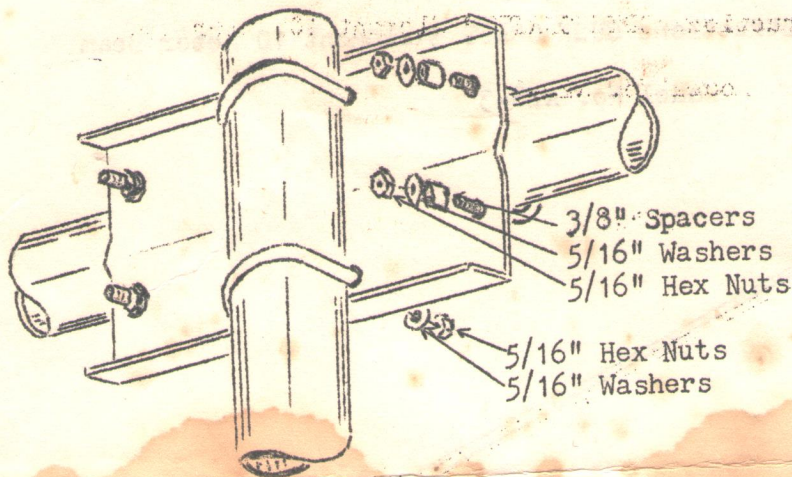

FIGURE 1 BOOM/MAST BRACKET
- (1) The elements are marked at the center: Reflector #1, Dipole #2, Director #3
- (2) The element positions are marked on the boom with black lines and numbers corresponding to those on the elements.
- (3) The element inserts are marked with black lines for center band. Slide the inserts into the center sections, to the black lines on the inserts, and tighten the telescope clamps.
- (4) Assemble the boom/mast bracket (Figure 1) and mount it on the boom to the rear of the dipole position.